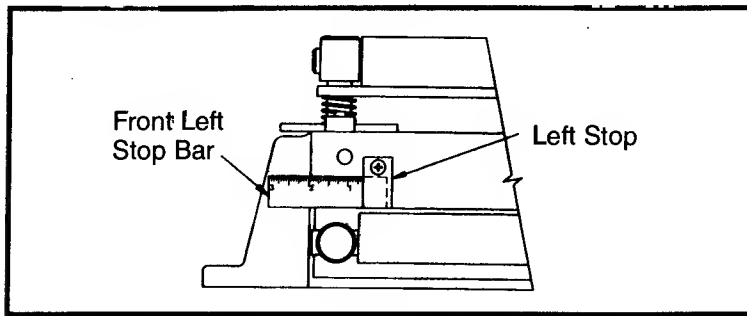

Fig. 24
3. Loosen front left stop bar and locate as shown in Fig. 24, for cutting female dovetails first (tails).